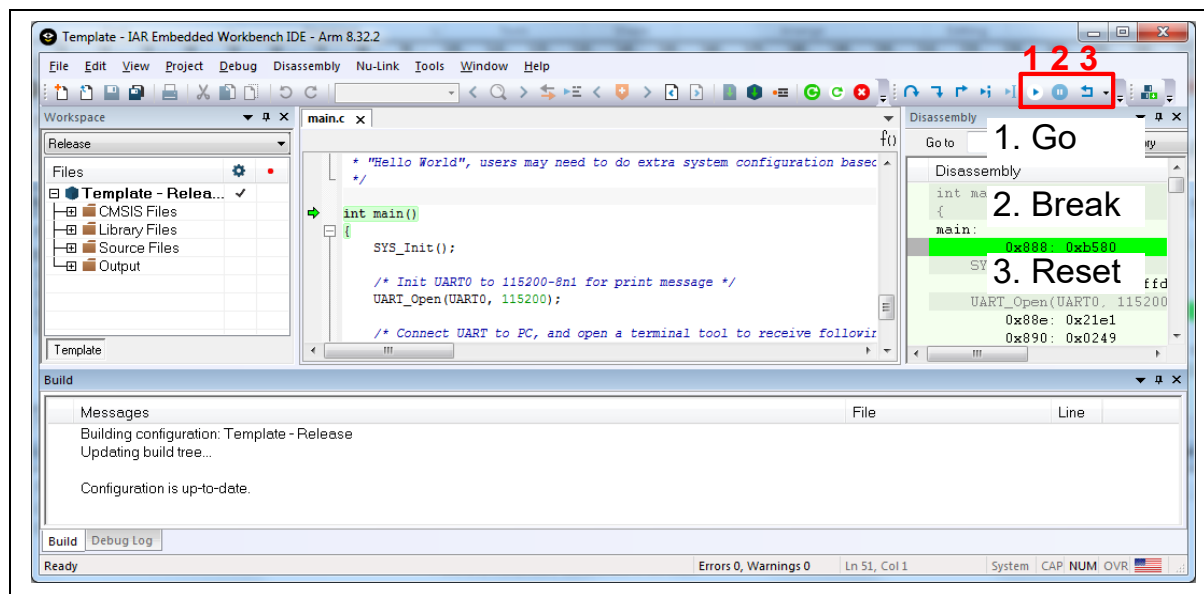
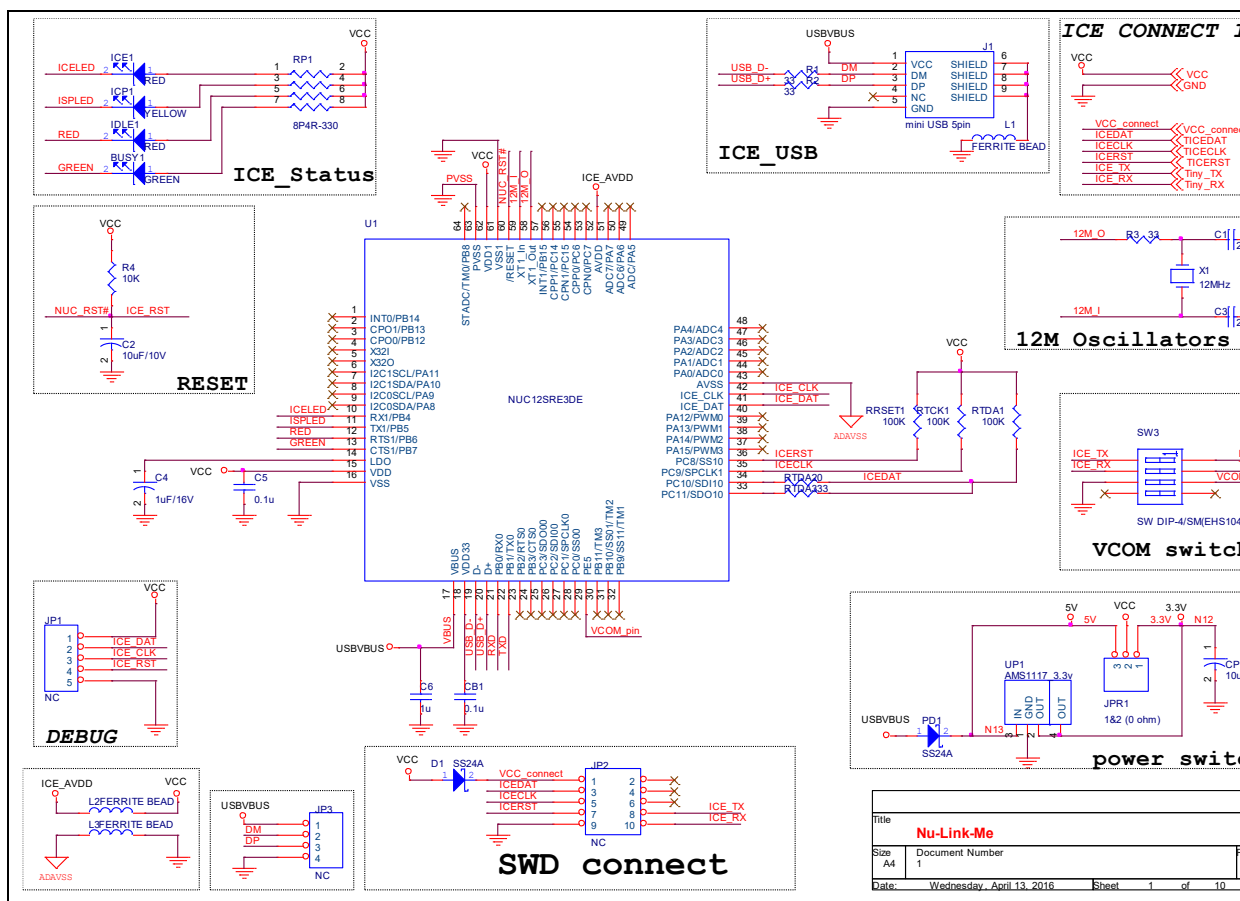

Figure 4.6-10 IAR EWARM Debug Mode
Figure 4.6-11 Debug Message on Serial Port Terminal Windows
12. Figure 4.6-10 shows the debug mode under IAR EWARN. Click “Go” and the debug message will be printed out as shown in Figure 4.6-11. User can debug the project under debug mode by checking source code, assembly language, peripherals’ registers, and setting breakpoint, step run, value monitor, etc.